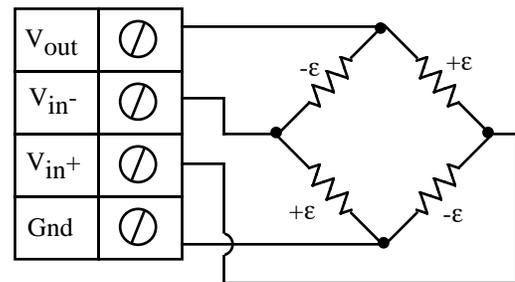

Fig 3.2b- Bridge Ratio Voltage Measurement
6. Wire your voltage source per figure 3.2b, and refer to the steps at the beginning of this chapter for more information on how to set up your sensor.5,10